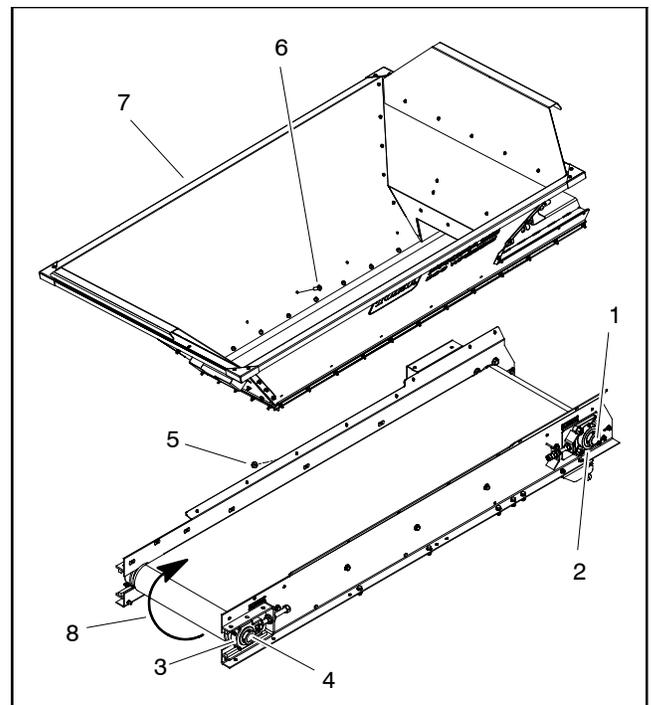

Figure 11
9. Remove fasteners that secure hopper assembly with gate assembly to machine frame (Fig. 11). Once all fasteners have been removed, raise the hopper assembly enough so that left side of conveyor frame can be removed. Support hopper above the machine.
10. Remove fasteners (five (5) cap screws and flange nuts) that secure conveyor bed assembly (item 2) to left side of conveyor frame.